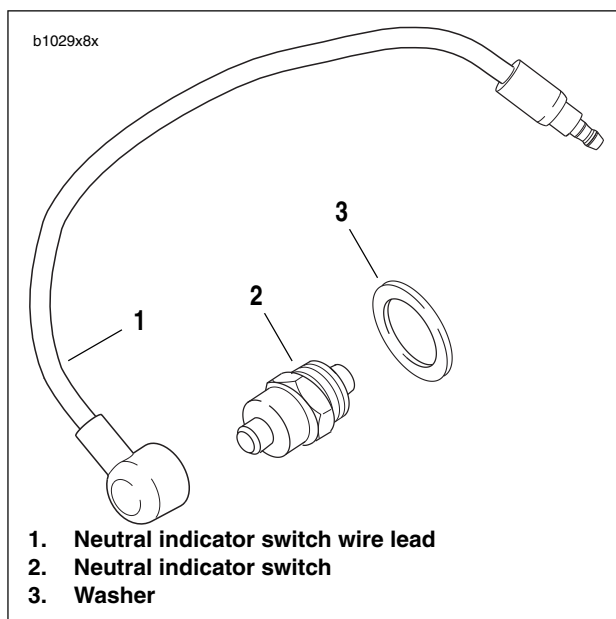

Figure 7-76. Neutral Indicator Switch
3. See Figure 7-76. Remove wire lead (1) from neutral indicator switch (2).
4. Remove neutral indicator switch and washer (3).
- a. Apply a light coating of LOCTITE 243 (blue) to **new** neutral indicator switch (2) threads.
- b. Install washer (3) over neutral indicator switch (2) threads.
- d. Connect wire lead (1) to switch.